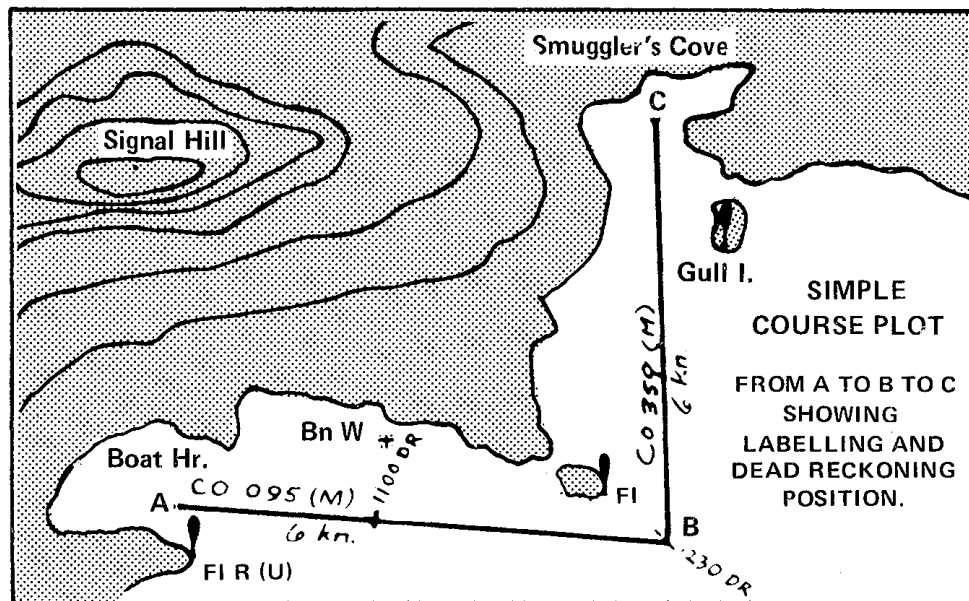

Figure 7-24 Simple Course Plot from A to B to C Showing Labelling and Dead Reckoning Position
85. **Plotting the Course** — (See Figure 7-24.) Examination of the appropriate chart, together with any available **local knowledge** will suggest the most suitable route from A to C — say via B. **Course lines** are drawn lightly, so they may later be erased, with a sharp, reasonably hard pencil. These mark the route which the vessel is intending to take. By transferring each line to the compass rose, its **direction**, with reference to magnetic north, is determined and is **labelled** as shown against the course line, thus: "Co 095 (M)" which means a course of zero nine five degrees magnetic. Also labelled is the **speed** at which the course will run, as "6 kn" meaning six knots through the water. For the present the water will be considered as flat, so speed through the water is also speed made good. Now if the time of departure from A is entered in the log and if the course is carefully steered, it is possible to calculate, at any particular time, how far the vessel should have advanced along her course line.
86. **Dead Reckoning** — If departure from A was taken at 1000 (10:00 a.m.), at 1100 the vessel should be six miles along the course line. This position is plotted as shown, "1100 DR," with a cross, meaning dead reckoning position at 11:00 a.m. Similarly she should be at point B, the distance from A being 15 miles, at 1230. This position would be labelled "1230 DR" — dead reckoning position at 12:30 p.m. It thus appears that with knowledge of course and speed, and with some intelligence and care, a **dead reckoning** position (DR) can be established at any time. Such is the practice followed by piloting and, with reservations as to the compass (to be discussed later), the problem of dead reckoning in still or flat water is no more complex than described. The word "dead" in this sense is either a corruption of "deduced" or relates to . . . the meaning of dead as "absolute". In any event, a DR position is one which is calculated and is based on certain assumptions as to speed and course made good. Some commercial publications, used in the way road maps would be by a motorist, show the courses between popular points pre-plotted, labelled, and with the miles marked off. All the amateur has to do, if he wishes to use these crutches, is to steer